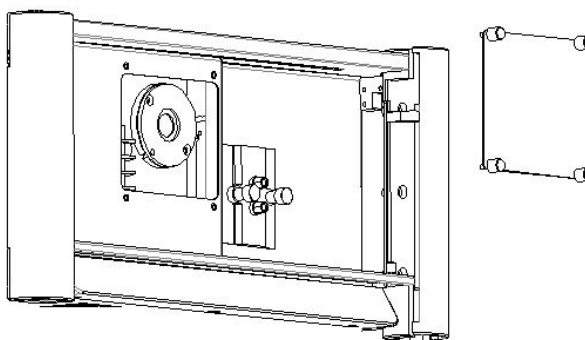

Fig. 5-1 Remove the front lamp cover
- 1) Unscrew two fixing screws of the front panel, and remove the front panel lamp cover, as shown in Figure 5-1.